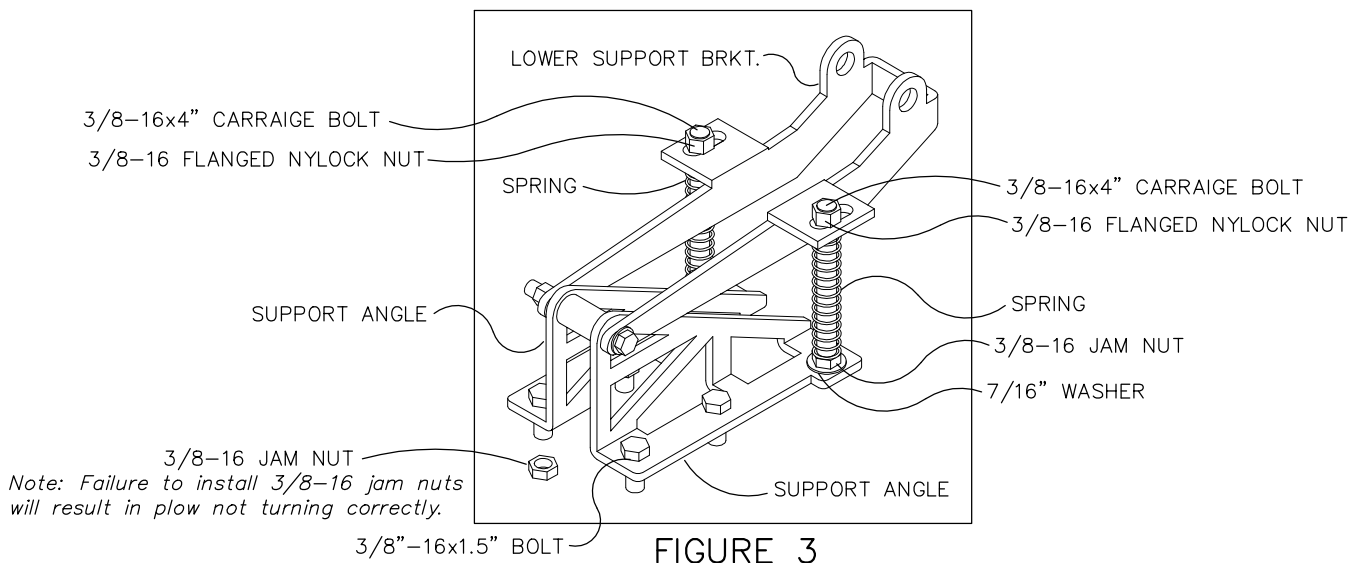

FIGURE 3
4. As shown in Figure 3, insert 3/8–16x4” carriage bolts thru bottom of support angles and 7/16” washers.
- Note: As shown in Figure 3, tighten so that the top of the nut and the top of the bolt are flush.*
8. Insert (4) 3/8–16x1.5” bolts thru holes in support angles.
9. Secure bolts using (4) 3/8–16 jam nuts.